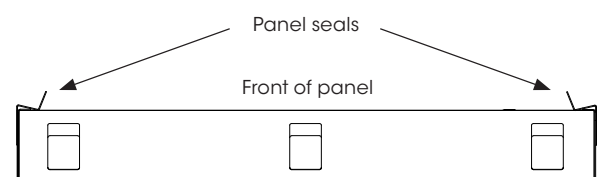

Fig. 1.4
- Repeat the process for all the panels. The seal is designed to seal against the face of the panel as per Fig 1.4.